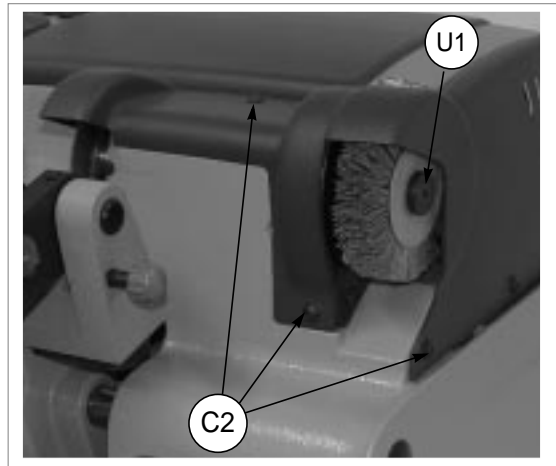

Fig. 27
- 2) Loosen the 3 screws (C2) on the cutter shield and remove (fig. 27).
- 1) Remove the swarf tray (V).
- 2) Loosen the 3 screws (C2) on the cutter shield and remove (fig. 27, page 18).